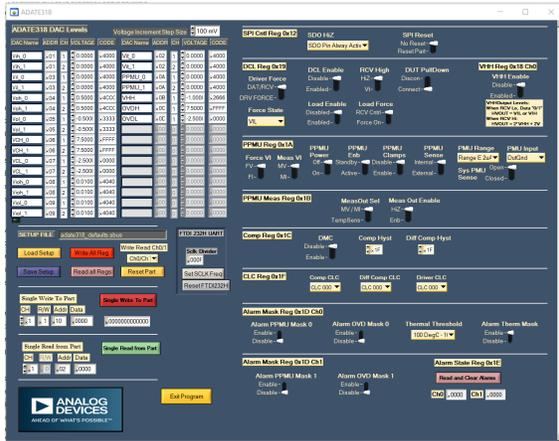
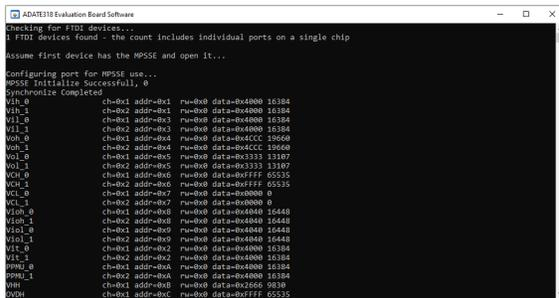

Figure 6. User Interface Default Values
Figure 7. Command Prompt Default Values
the software user interface (see Figure 6) and command prompt (see Figure 7) reflects the default values (see the ADATE318 data sheet for more information). If the user interface and the command prompt do not reflect the default values, perform the following steps:
6. Open the ADATE318 Evaluation Board Software, click the **Reset Part** button, and then click the **Read all Regs** button again to confirm if the user interface (see Figure 6) and command prompt (see Figure 7) reflects the default values of the registers.